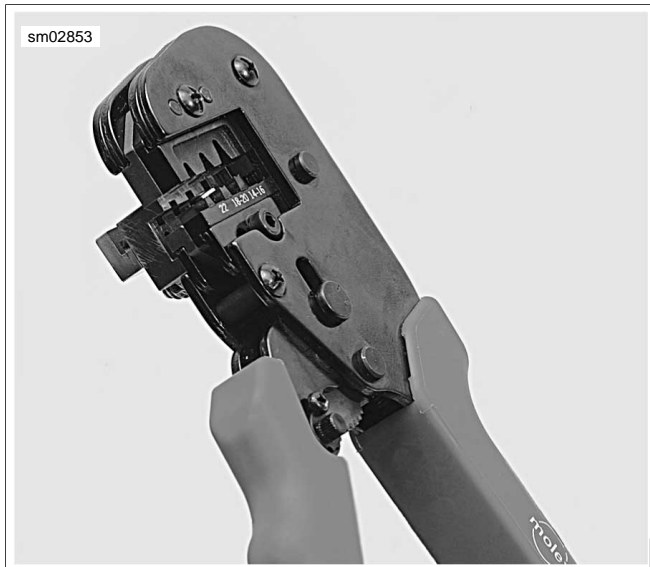

Figure A-27. Open Electrical Crimp Tool (HD-48119) at 45 Degrees
3. See Figure A-27. Hold fully open tool at approximately 45 degrees.